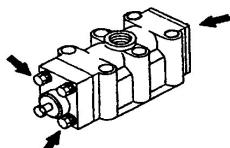

Fig. 7.2
- Remove the 8 cap A and cap B retainer bolts, and remove cap A, cap B, packing, plain washer, cushion and gasket. [Fig. 7.2]